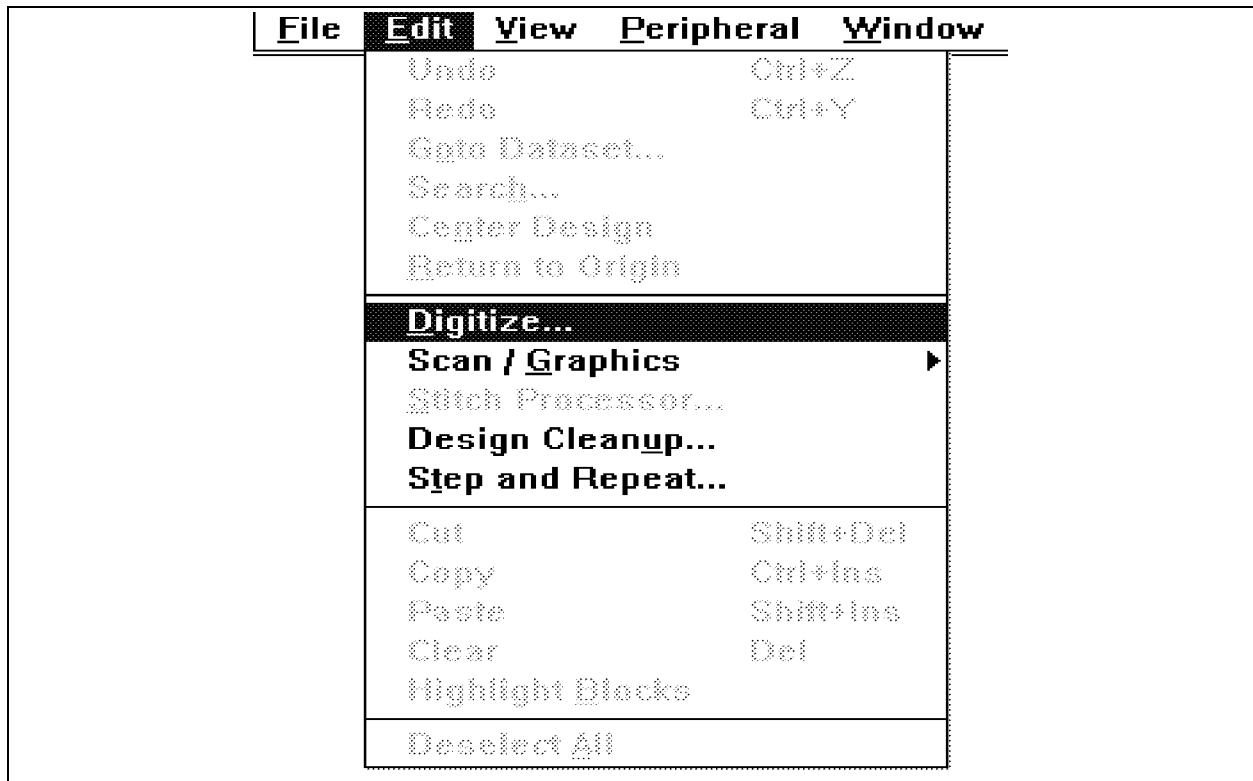

Figure 6-4
1. Click on the Edit menu item in the Menu Bar of the new Layout Window (see Figure 6-4).